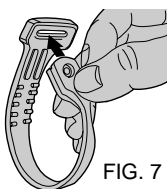

FIG. 7
1. Push double-hole end of holder through the slot in other end of holder (Figure 7.)